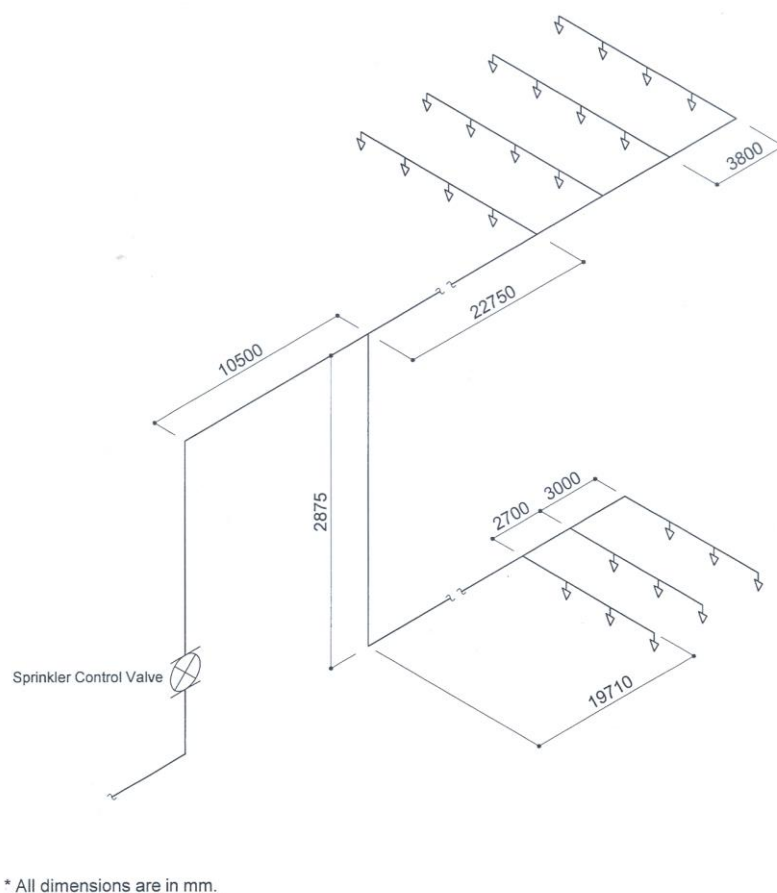

Figure Q4. Isometric design of an Ordinary Hazard Group II sprinkler system
Use the isometric design of an Ordinary Hazard Group II sprinkler system as shown in Figure Q4, to design according to the pre-calculated method.
- (a) Determine the water supply requirements and show them on Figure Q4.